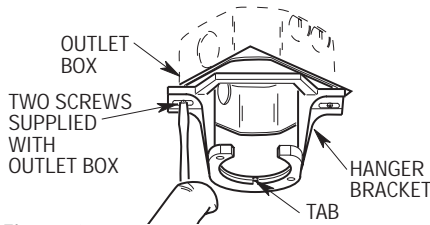
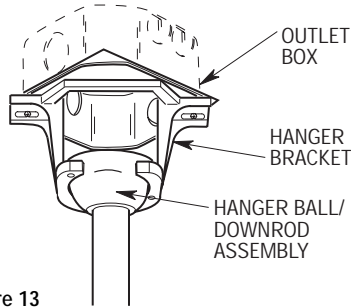

Figure 12
Figure 13
- 1. Securely attach the hanger bracket to the outlet box using the two screws supplied with the outlet box (Figure 12).
- 2. Carefully lift the fan and seat the hanger ball/downrod assembly on the hanger bracket that was just attached to the outlet box (Figure 13). Be sure the groove in the ball is lined up with the tab on the hanger bracket (Figure 12).